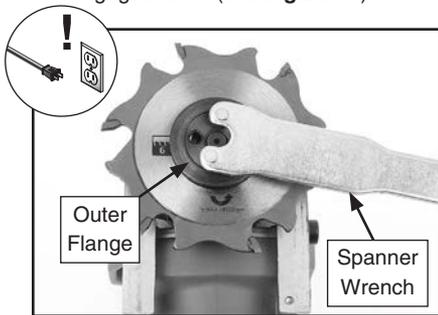

Figure 18. Removing blade.
7. Press arbor lock button (see **Controls** on **Page 6**), and use spanner wrench to turn outer flange until arbor lock engages arbor (see **Figure 18**).